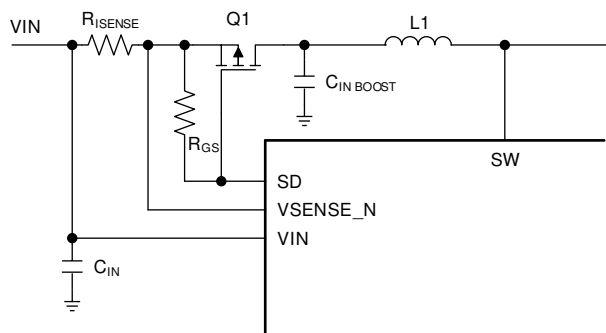

Figure 14. Power-Line FET Control Schematics
The LP886x-Q1 has a power-line FET control feature. It has a control pin (SD) for driving the gate of an external power-line P-Channel MOSFET. This feature grants LP886x-Q1 the ability to immediately cut-off the power part of backlight system when failure occurs, protecting other parallel power systems from being impacted. In addition, the feature could smooth the inrush current during powering-up by turning on the power-line FET gradually. In SOFT START state, the SD pin slowly increases the sink current until it reaches 230 μA. An example schematic is shown in Figure 14.